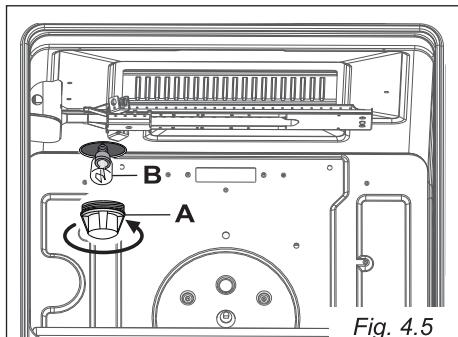

Fig. 4.5
- Remove the protective cover "A" (fig. 4.5).